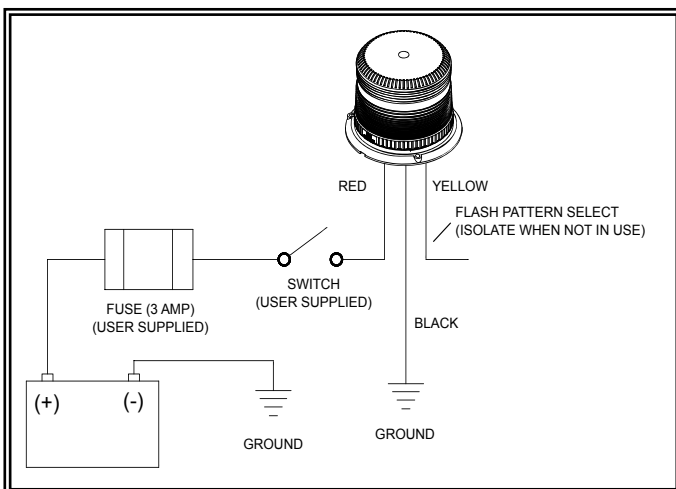

Figure 3
4. Connect the power wires as shown in the wiring section (see Figure 3).